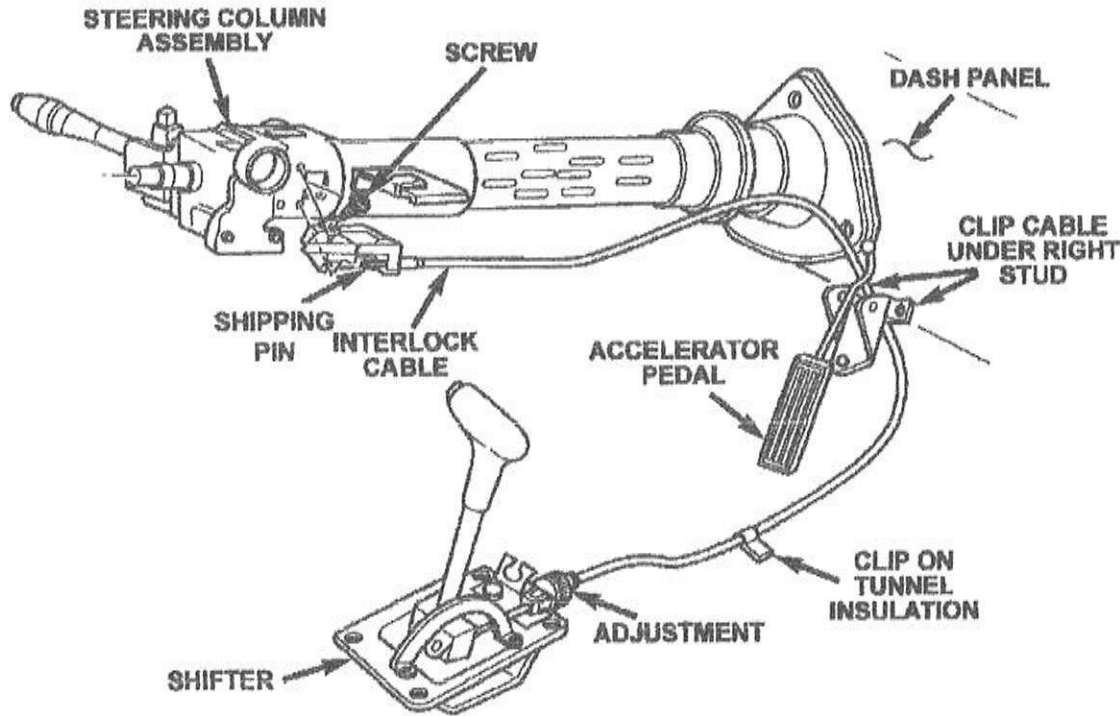

Figure 4
13. Remove the accelerator pedal fasteners and set pedal assembly aside (Figure 4).
15. Disconnect all interlock cable mounting clips (Figure 4).
17. Disconnect the ignition interlock cable from the ignition key cylinder (Figure 4).
22. Connect the cable to the ignition key cylinder (Figure 4).
24. Connect all cable mounting clips (Figure 4).
27. Install the accelerator pedal assembly after routing and clipping cable (Figure 4).
30. Remove the shipping pin from the cable ignition key lock cylinder fitting (Figure 4).